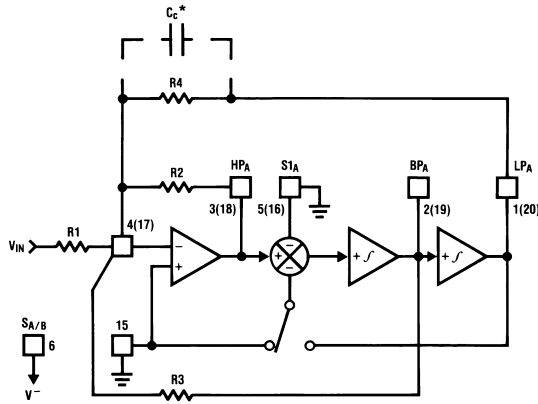

Figure 44. MODE 3
8.4.1.5 MODE 3: Highpass, Bandpass, Lowpass Outputs (See Figure 44)